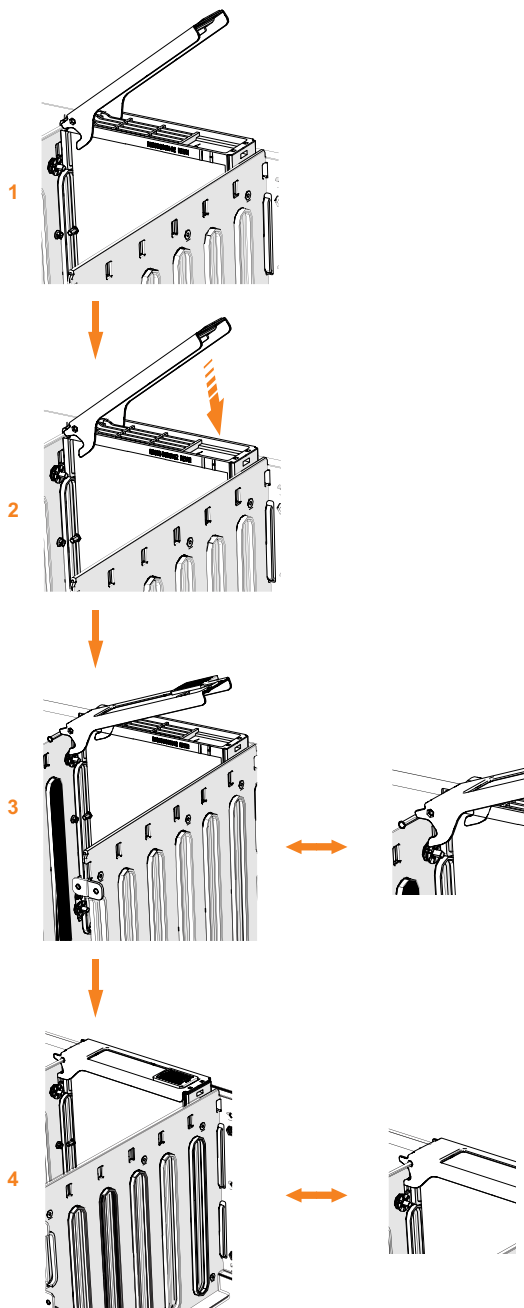

Figure 56. Replace the drive
6. Ensure that the drive handle (**1** in Figure 56 on page 73) of the drive assembly is in the open (unlocked) position.
8. Gently push the drive down until it stops and the bottom of the latch is aligned with the top of the partition. Ensure that the handle is not open more than 45 degrees from the drive carrier. (**2** in Figure 56 on page 73).
9. Rotate the handle down to lock the drive assembly into the chassis (**3** in Figure 56).
11. Ensure that the top toe of the latch is also fully engaged (**4** in Figure 56 on page 73).